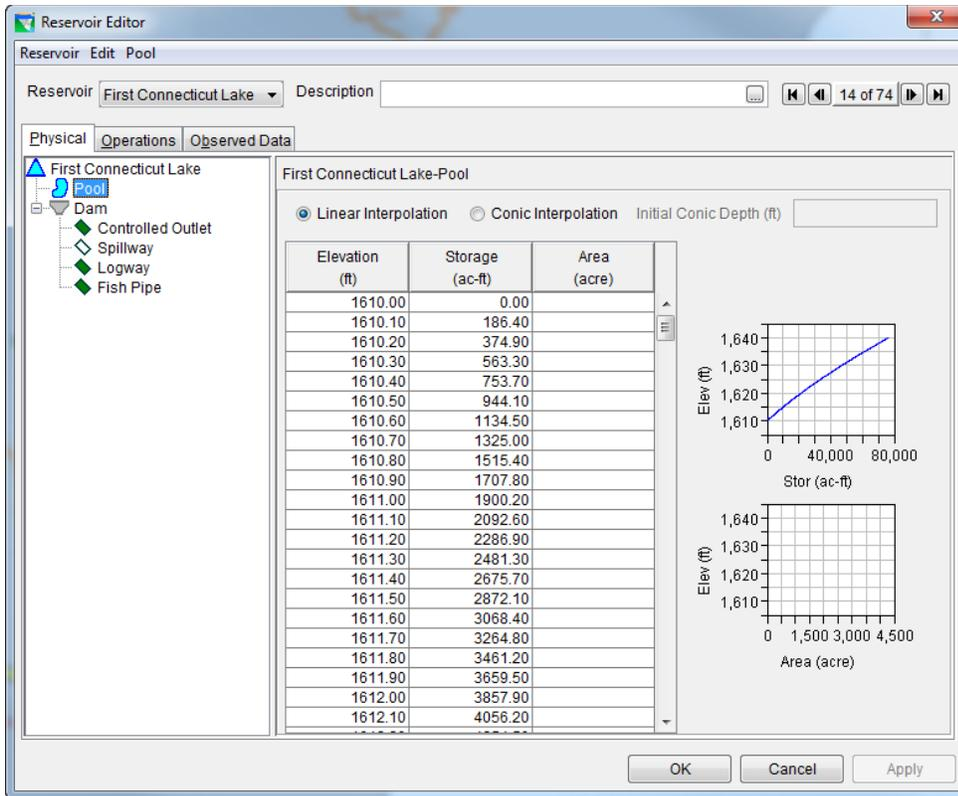
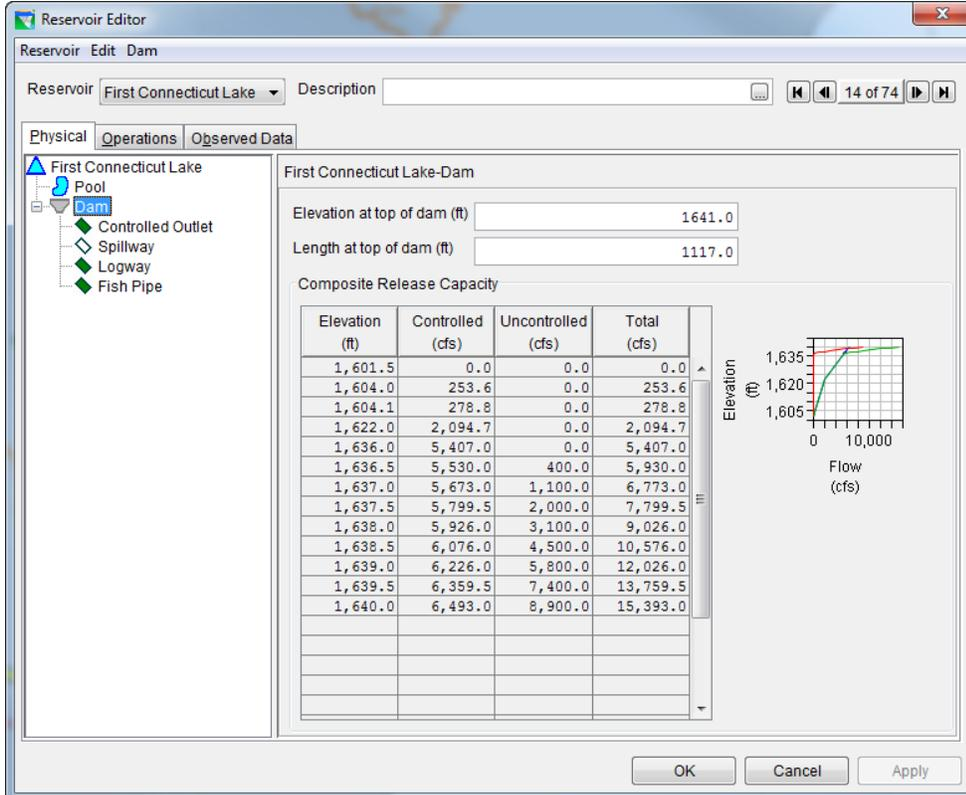

Figure 3: Reservoir Editor: Physical Tab -- Pool
Figure 4: Reservoir Editor: Physical Tab -- Dam
The physical characteristics of the reservoir are separated between the Pool and the Dam in the HEC-ResSim model. The elevation-storage-area defines the pool as shown in Figure 336. The dam consists of four types of outlets: (1) controlled outlet, (2) uncontrolled spillway, (3) controlled Log way, and (4) controlled Fish Pipe as shown in Figure 4.